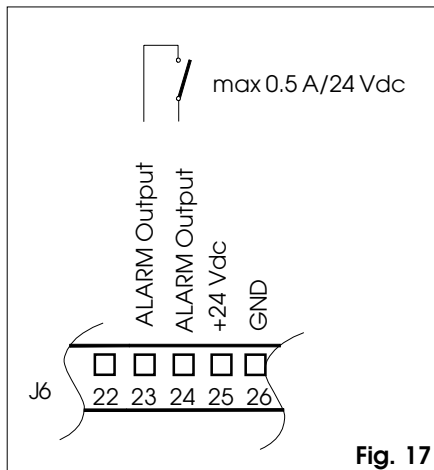

Fig. 17
- ⑦ J6 terminal board** Relay outputs and special functions (figs. 17, 18, 19)